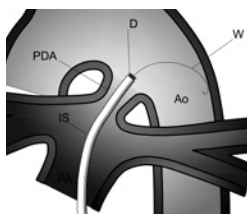

Fig. 14
- Advance the pusher (P) until the device reaches the end of the Implantation Sheath (IS). Fig. 14.